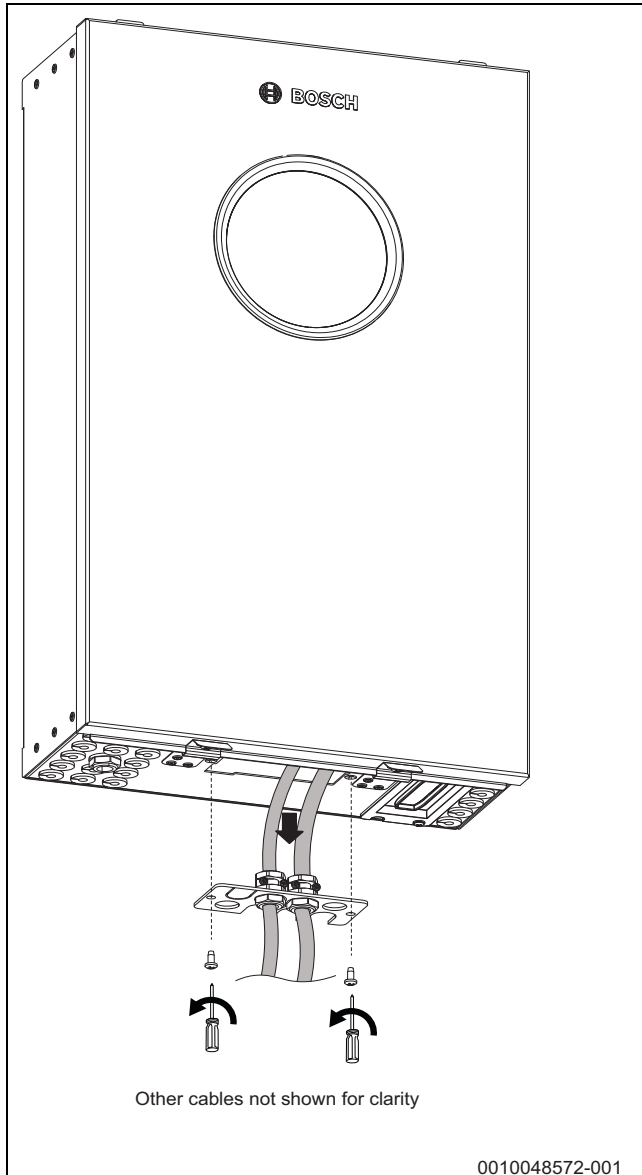

Fig. 30 Lowering the strain-relief plate
- Unscrew and carefully lower the strain-relief- plate as shown in fig 30 Lower the plate until resistance is felt, do not pull strongly to prevent damage to other cables/ connectors